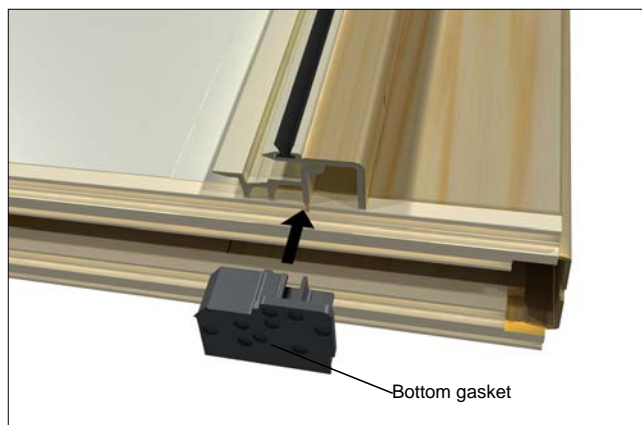

Figure 2
2. Remove bottom gasket from interlock. See figure 2.